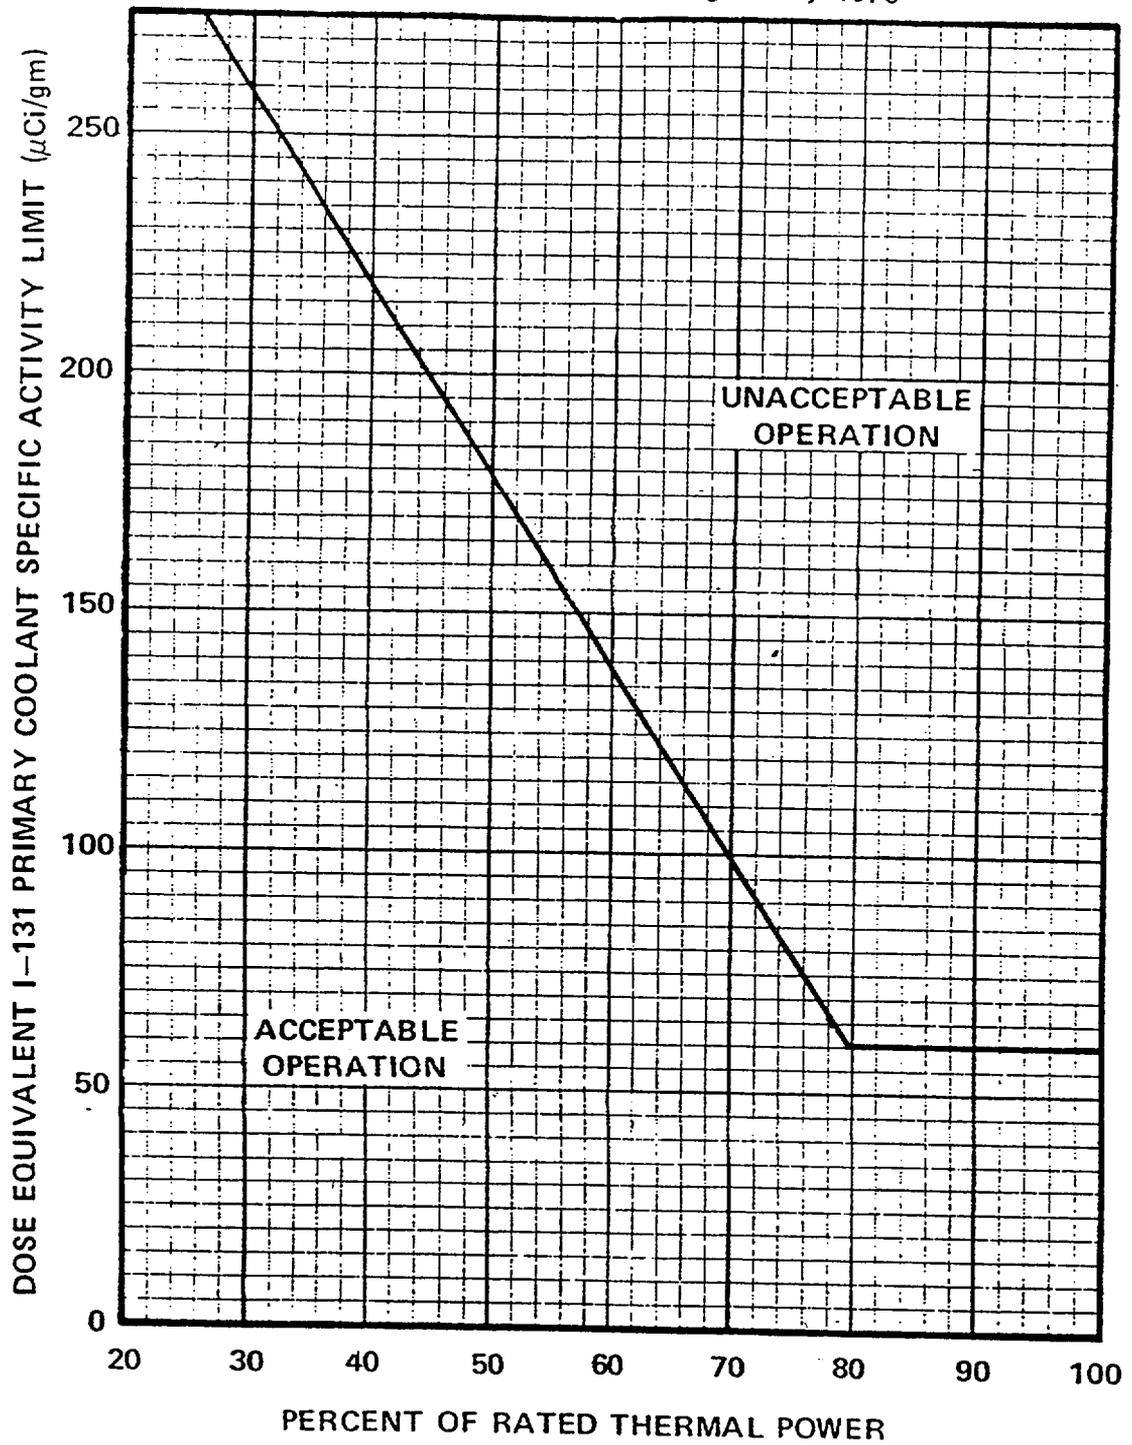

FIGURE 3.4-1
**Justification** Tech. Spec. 3.4.8, Figure 3.4-1 [MUST BE PROVIDED TO LOIT STUDENTS!!]